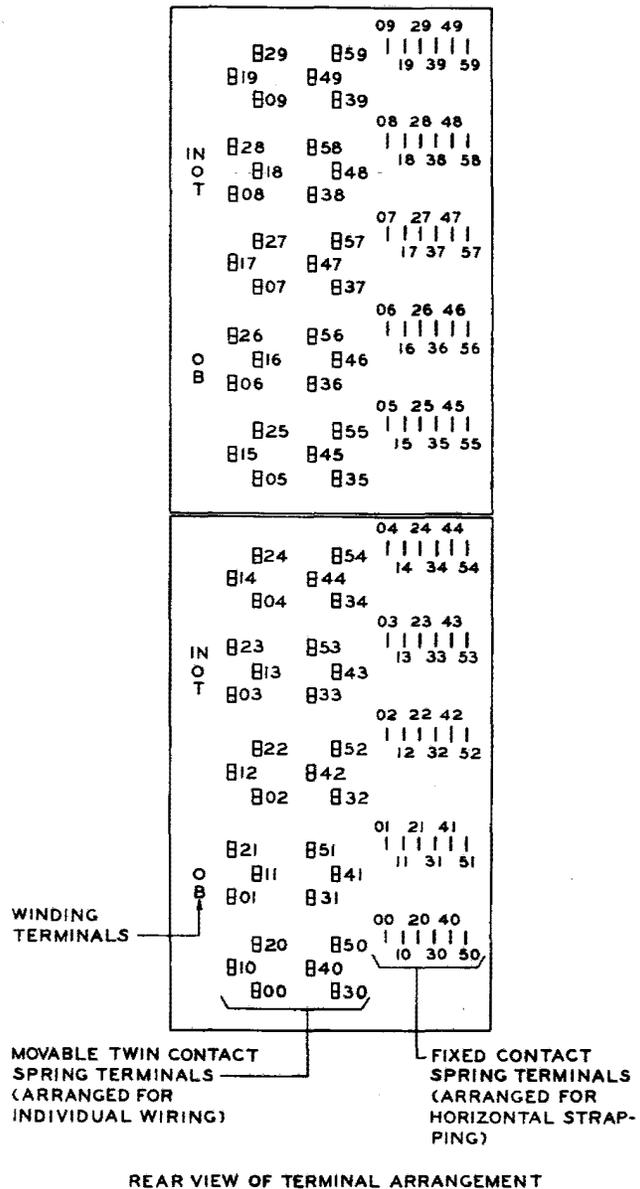

Fig. 61 – Winding and Spring Terminal Arrangement as Viewed From the Rear (terminal side) — 287-Type Relay
(1) The terminals of the movable contact springs are designed for individual wiring. As shown in Fig. 61, they are arranged in two vertical rows of thirty terminals each. Each vertical row is divided into ten groups of three terminals each, alternate terminals being offset to facilitate wiring.
(2) The terminals of the fixed contact springs are designed for horizontal strapping and are arranged in ten horizontal rows of six terminals each. The rear ends of all fixed contact springs are offset so that their terminals are located to the right of the terminals of the movable contact springs. The six fixed spring terminals in each horizontal row are associated with the six movable spring terminals in the adjacent two groups to the left.
(3) Referring to Fig. 61, all terminals are designated by 2-digit numbers. The ten groups of movable spring terminals in each vertical row are numbered from 0 to 9 starting at the bottom. Similarly, the ten horizontal rows of fixed spring terminals are numbered from 0 to 9 starting at the bottom. These numbers appear as the second digit in the designations of the individual terminals.
(4) In the left vertical row of movable spring terminals, the three terminals in each of the ten groups are numbered 0, 1, and 2 starting at the lowest terminal in the group. Associated with these terminals are the first three fixed spring terminals in the adjacent horizontal row which are also numbered 0, 1, and 2 starting at the left end of the row. These numbers appear as the first digit in the designations of the individual terminals.